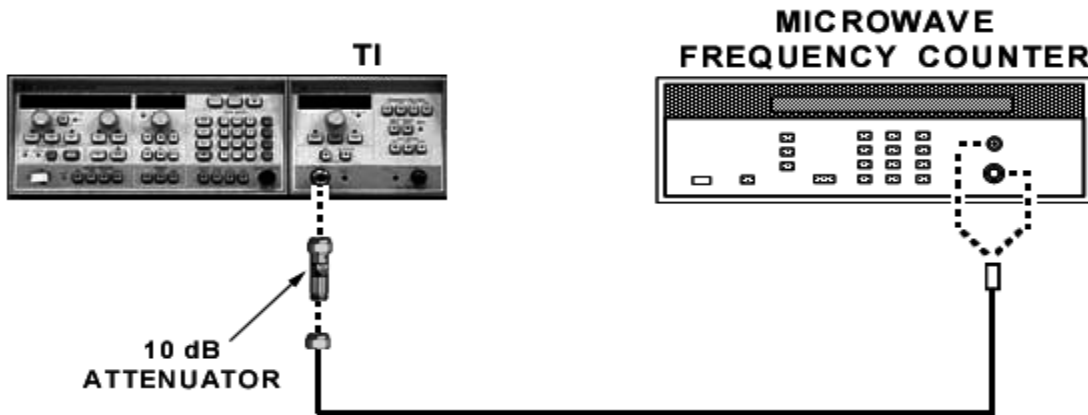

Figure 2. CW frequency accuracy – equipment setup
- (1) Connect equipment as shown in figure 2.